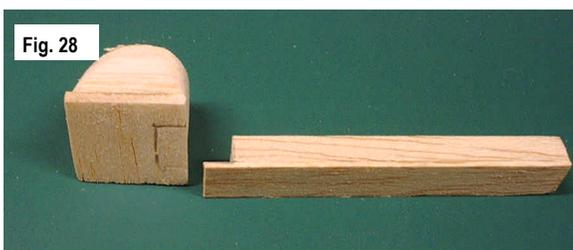

Fig. 28
28. Glue the seat back to the seat extension. Mark the gluing area on the headrest assembly as shown in Fig. 28.